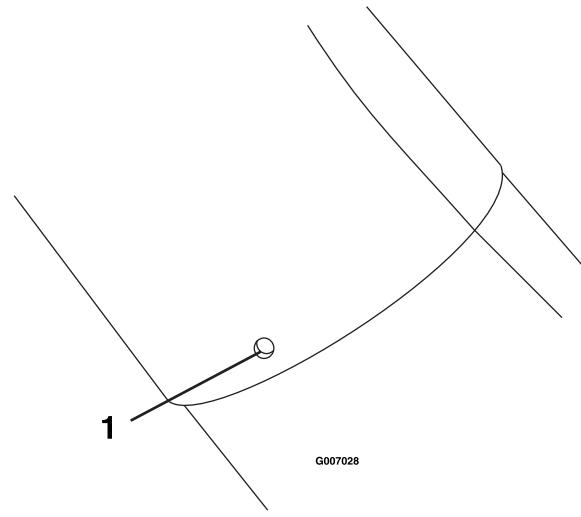

Figure 28
7. Drill the 7/32 inch holes in the lower tube using the upper tube holes as reference. See Figure 28.